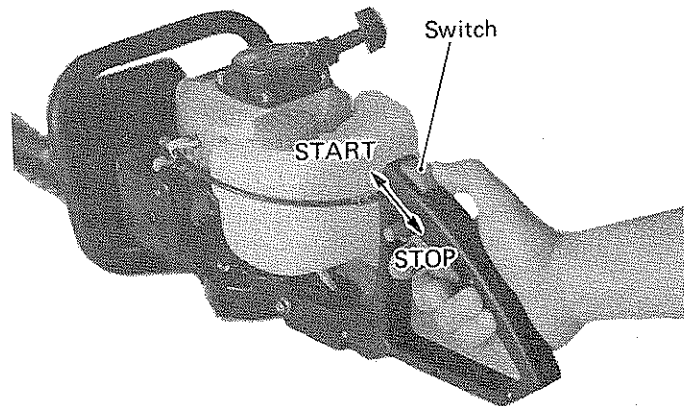

Figure 1
1. When starting the engine, set the switch to START. (Figure 1)
2. Set the stop switch to stop. (Figure 1)